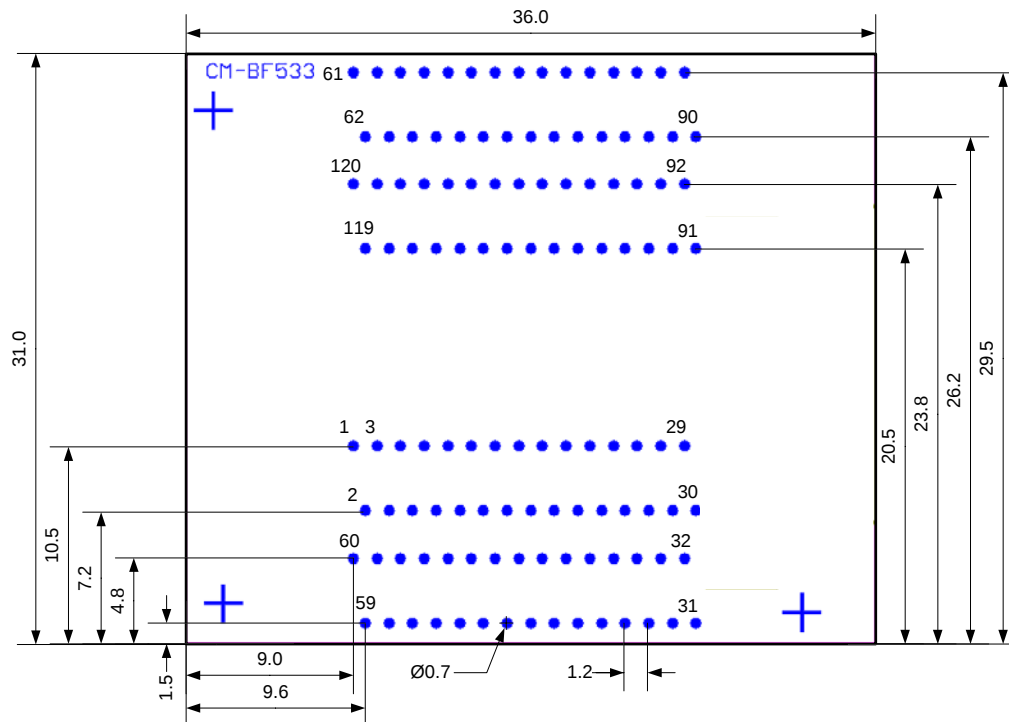

Figure 2-4: Connector Footprint for BGA Version
- o For very low assembling height and small to medium volume production the module can also be delivered as a BGA version with an easy to route BGA footprint as can be seen in Figure 2-4.